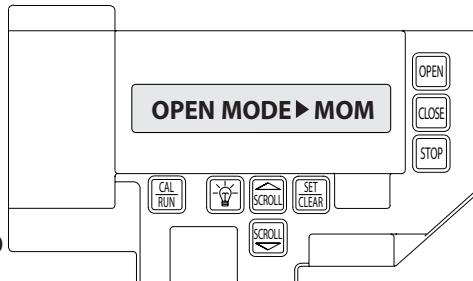

Figure 10
- 2) Press SCROLL  key until display reads "OPEN MODE>MOM" or "OPEN MODE>C-STOP." **Figure 10.**
- 2) Press SCROLL  key until display reads "CLOSE MODE>MOM," "CLOSE MODE>C-STOP" or "CLOSE MODE>C-REV." **Figure 10.**